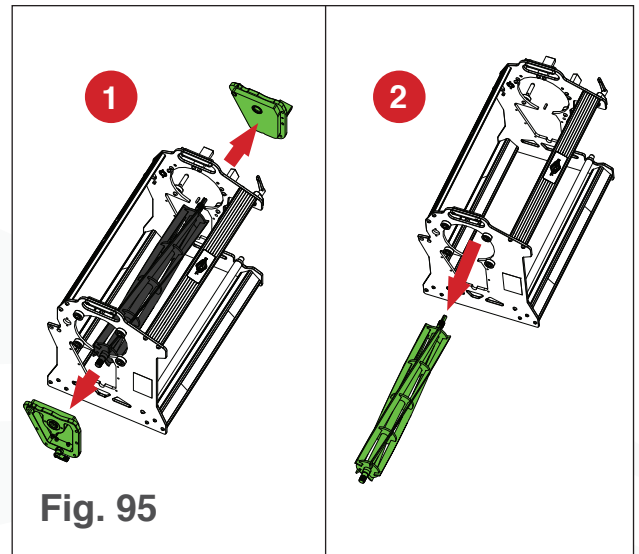

Fig. 95
15. Pull both end plates out of the T4 and remove the blade (see Fig. 95).